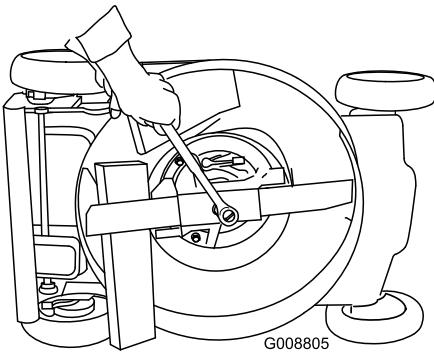

Figure 38
- Use a block a wood to hold the blade steady (Figure 38).